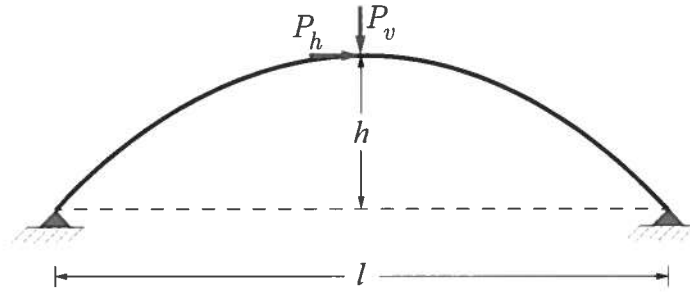
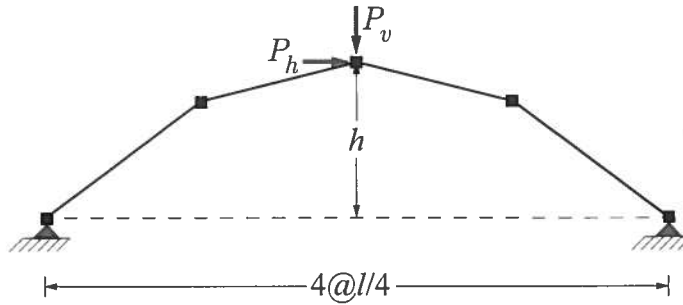

Figure 2: Two hinge parabolic arch
Figure 3: Idealization of parabolic arch with 4 straight frame elements
The two hinge parabolic arch in Fig. 2 carries a vertical force P_v and a horizontal force P_h at its apex. It has span l and height h with $h = l/4$. You are asked to determine the collapse load of the arch under the assumption that it possesses uniform plastic capacity M_p that is independent of the axial force. It is proposed to use the structural model in Fig. 3 to approximate the geometry of the parabolic arch: it consists of four *inextensible*, straight frame elements with flexural capacity M_p connecting nodes on the parabola of the ideal arch axis.
1. Determine the load factor λ_c of the structural model in Fig. 3 in terms of the span l , the ratio $\eta = P_h/P_v$ in the range $0 \leq \eta \leq 1$ and the plastic flexural capacity M_p . You can assume that the nodal forces P_h and P_v act in the direction shown in the figures.
2. Do you expect the result of the preceding question to be larger or smaller than the exact load factor for the parabolic arch in Fig. 2? Explain why.